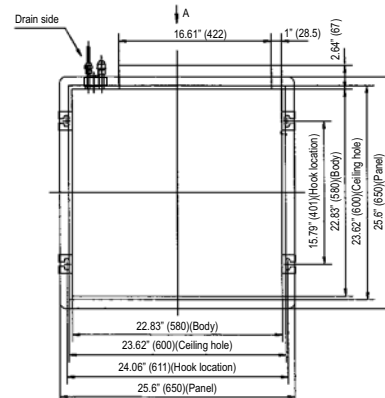

Fig.15
a. Please cut a quadrangular hole of 600;600mm in the ceiling according to the shape of the installation paper board. (Refer to Fig.15 & 16) The center of the hole should be at the same position of that of the air conditioner body. Determine the lengths and outlets of the connecting pipe, drain pipe and cables.